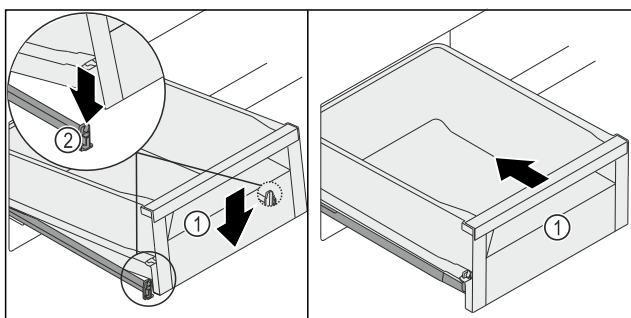

Fig. 260
- Lower the drawer Fig. 260 (1) at the front so that the drawer slides into the clamp Fig. 260 (2) on the left and right.
- The drawer Fig. 260 (1) locks in audibly.
- Push in the drawer Fig. 260 (1).